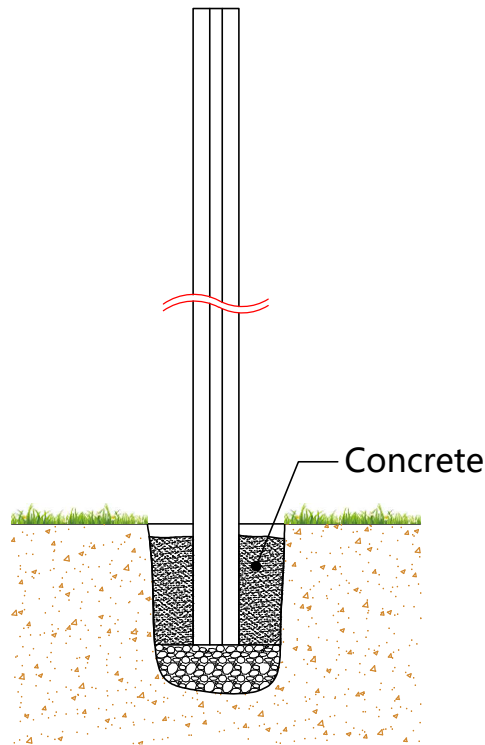

Figure 6.1
- 6 Pour concrete into the hole until it reaches 1-15/16" below ground, as shown in Figure 6.1.